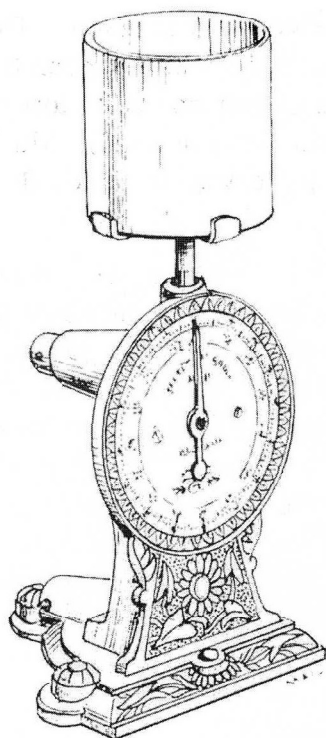

Figure 8. ▲▲ A spring grain scale made by Geo. Salter & Co. c.1890. Dual graduations show the actual weight of the grain, and the weight per bushel.
manipulated. In the 1890s, Geo. Salter & Co. made a spring balance with a dial indicator, which provided an instantaneous read-out in pounds per bushel (figure 8). It was based upon their popular letter-balance which is now often seen at antiques fairs, with an attractive copper-bronze finish on the decorative cast iron base. There was, however, a penalty to pay for speed and convenience. The spring balance was not quite as accurate or so sensitive as the equal-arm beam scale or the steelyard. Speed was also the theme behind the late 19th century pendulum grain scales made by Louis Schopper of Leipzig (figure 9). Here, the bucket is filled from the funnel and then suspended from the beam. The latter then swings round, automatically finding its own point of balance. Weight per unit volume could then be read directly from the graduated quadrant. This type of instrument was also imported into Britain, marked in pounds per bushel. Some of Schopper's balances were marked with his name, others with his trademark.
▼▼ Fig. 8
Fireplace Jack - The George Salter Co is a household name in English made scales. One can readily associate that name with their many different scales, especially the spring balances (fig. 8). Well, the Salter line included lots of household tools and gadgets. Among them is a fireplace jack (fig. 9), a clever 19th Century device which hung in the fireplace and turned food slowly over the fire. The guts of the jack is essentially a clock movement wound by a key. The movement rotates a shaft fitted with a hook from which food or a utensil is hung. These gadgets are seen quite often in antique shops but most of the time I have found them made by other makers, not Salter. Perhaps this item was truly a minor line for Salter that relatively few were made and hence survived.
Fig. 8. << R Vandome (D) showing the second design of A frame, the reversed tulip shape. Although it is different from the A frame in Fig. 1, it is equally elegant, and it might be considered to be by the same designer. Note the dotted design on the brass discs beneath the legs. Most makers used a domed "drawing-pin" as the brass disc. This large, flat design is not known on any other scales.